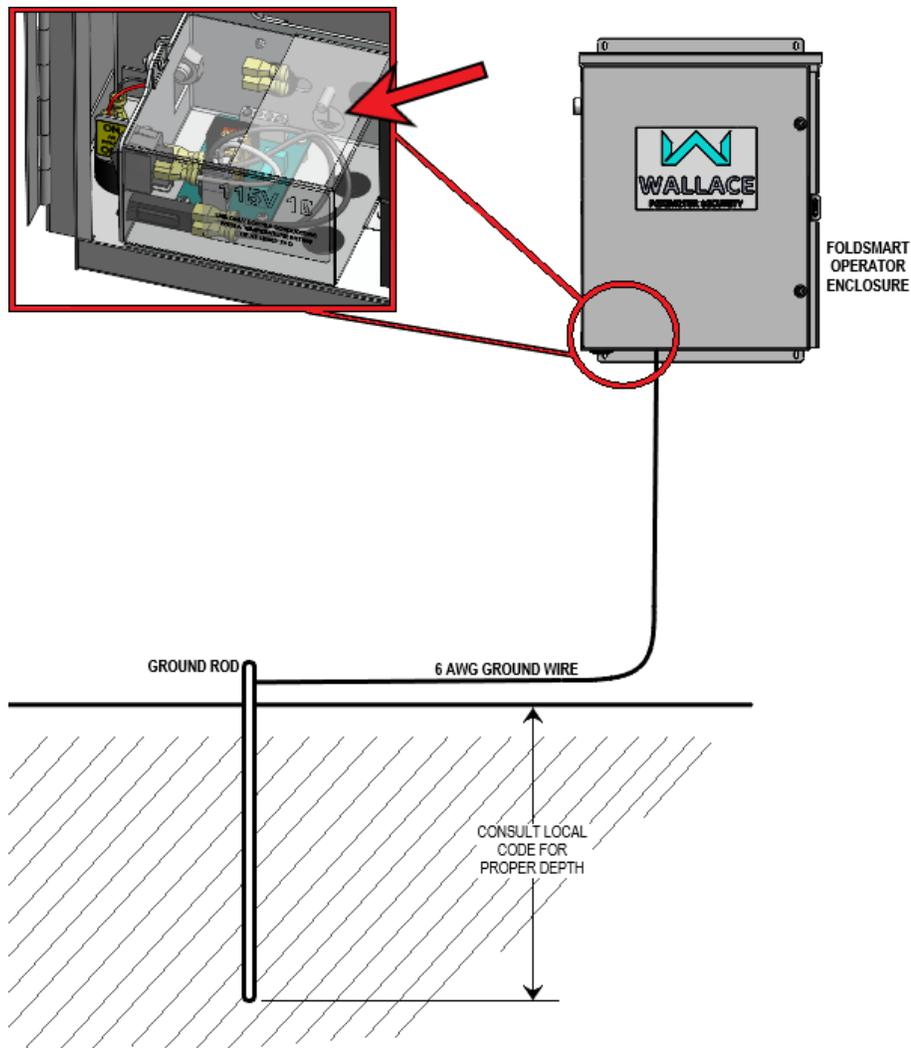

Figure 1. Grounding Rod Installation
1. **Install a grounding rod per local building codes. See Figure 1.**